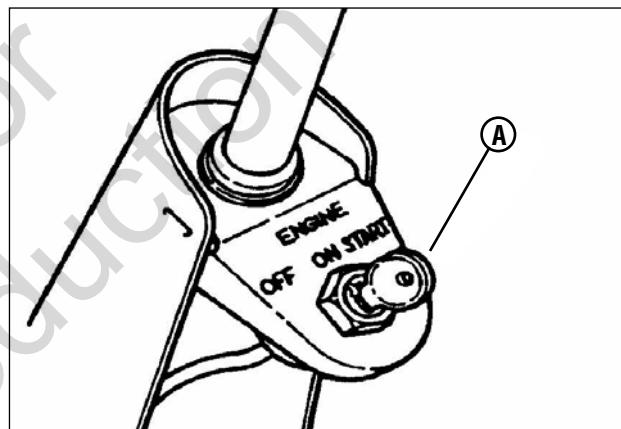

Figure 9: Key
5. Turn the key (A, Figure 9) to the "ON" position.